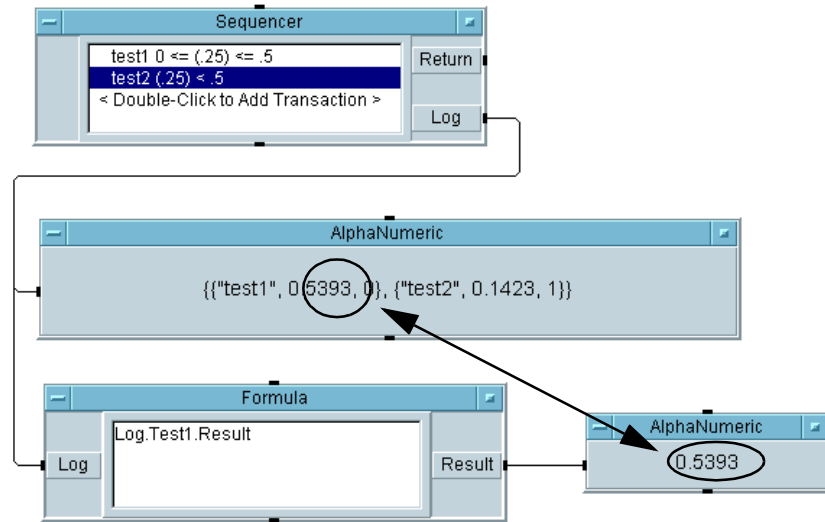

Figure 9-5. Accessing Logged Data
4. Run the program and it should access the `Result` field in `Test1`. Save the program as `seq2.vee`. The program should look like Figure 9-5.